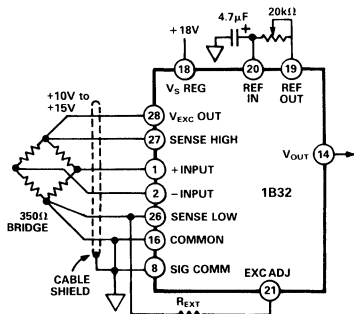

Figure 4. Constant Voltage Excitation: +10V to +15V Range.
**Voltage Excitation Programming:** The excitation voltage is preset to  $+10V$ . To increase  $V_{\text{EXC}}$  up to  $+15V$  a resistor must be connected between EXC ADJ and SENSE LOW (Pins 21 and 26) as shown in Figure 4.